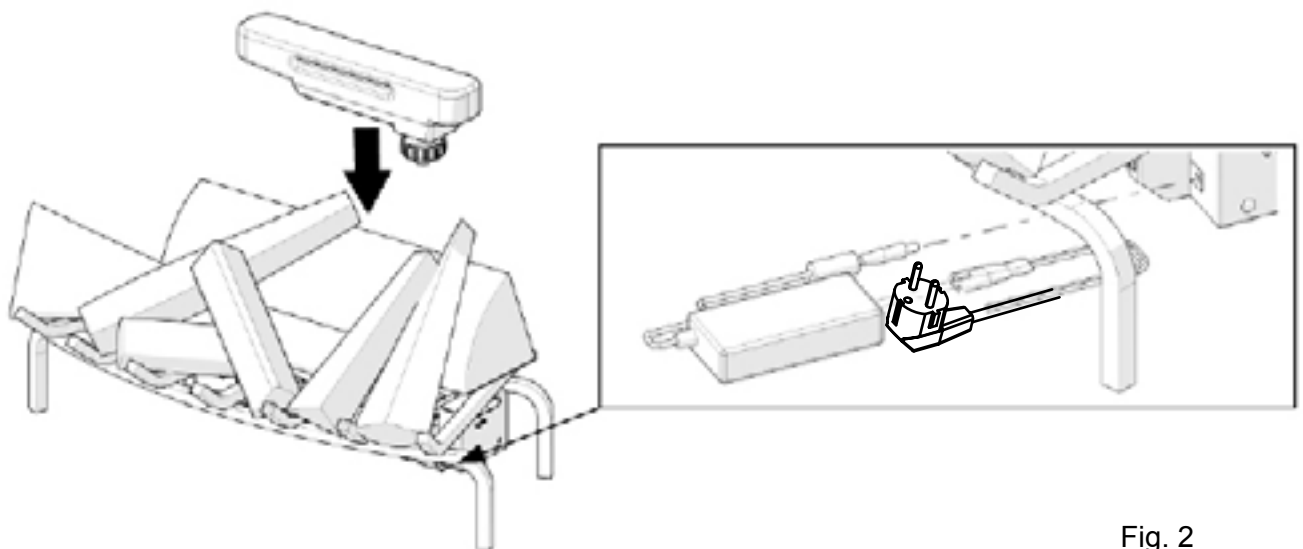

Fig. 2
3) Assemble power adapter (Figure 2). Plug the power adaptor into the front of the unit, then plug the unit into a power socket